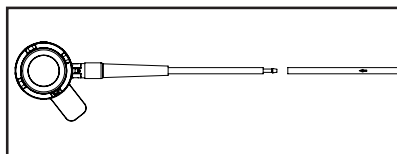

Figure 1. Band to port tubing connection
2. After the band is placed, the band tubing is brought outside the abdomen. The tubing may be shortened to tailor the position of the access port to the patient while avoiding tension between the port and the band. Remove the end plug from the band tubing. Then, push the access port tubing with stainless steel connector onto the band tubing until it is flush against the band tubing (**Figure 1**).